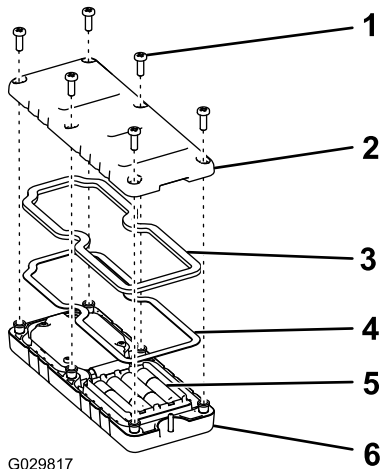

Figure 29
1. Remove the 6 screws from the back of the remote and remove the cover (Figure 29).
5. Replace the cover and secure it with the 6 screws removed previously (Figure 29) and torque them to 1.5 to 1.7 N·m (13 to 15 in-lb).